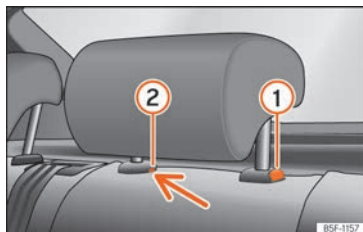

Fig. 128 Rear headrest: removal.
- Press button »» Fig. 128 ①, while simultaneously pressing on the security hole ② with a flat screwdriver a maximum of 5 mm wide, and remove the headrest.